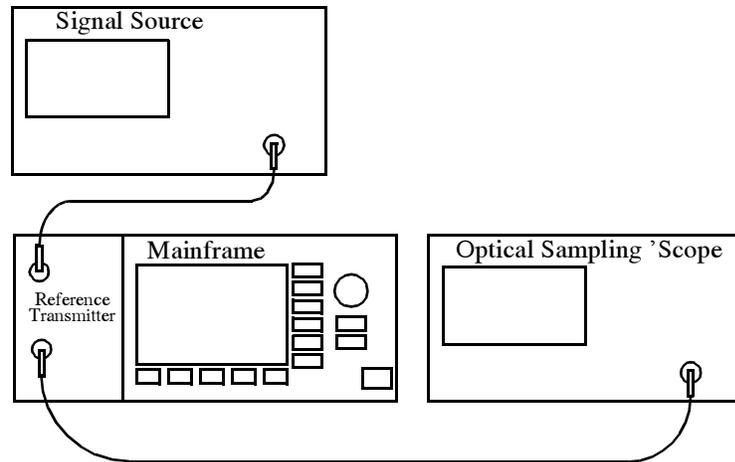

Figure 3 Operating Point Setup
2. Set up your equipment as displayed in Figure 3.